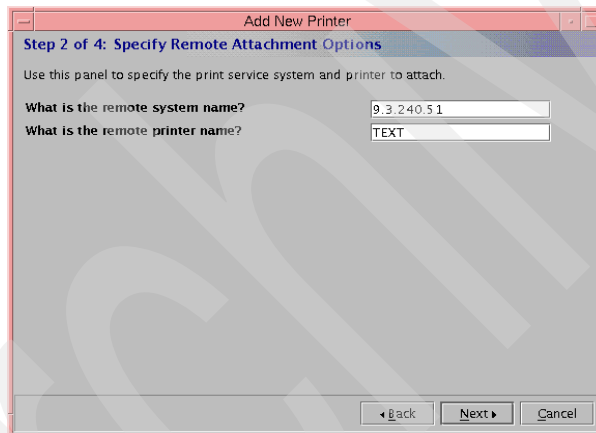

Figure 15. Adding an LPD printer (step 2 of 4)
- a. In the panel shown in Figure 15, we typed in the fully-qualified hostname of the Network Printer 12 (though it also worked with the alias that was configured in the DNS server, as well as with the dotted-decimal IP address).